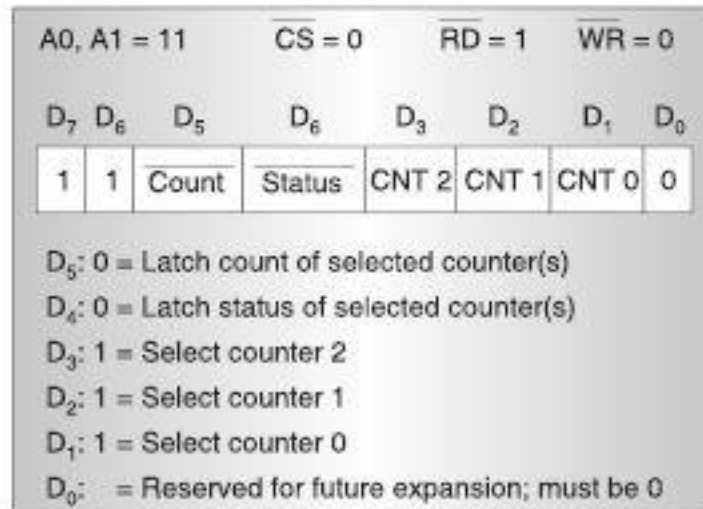

Fig. 5.39 Read Back Command.
This command allows the user to check the count value, programmed mode, and current states of the OUT pin and Null Count flag of the selected counter(s). The command is written into the Control Word Register and has the format shown in Figure 5.39. The command applies to the counters selected by setting their corresponding bits D_3 , D_2 , $D_1 = 1$. The read-back command may be used to latch multiple counter output latches (OL) by setting the COUNT bit $D_5 = 0$ and selecting the desired counter (s).